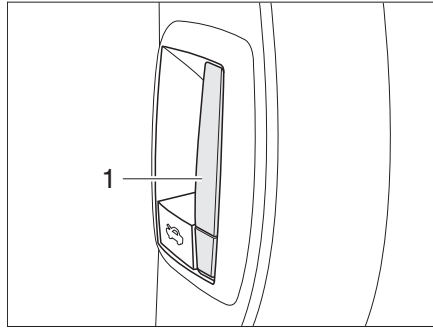

Fig. 29 Release knob on the inside of the bonnet
- Pull the lever (Fig. 29,1) situated on the left-hand side of the vehicle on the dashboard. The bonnet opens as far as the safety hook allows.